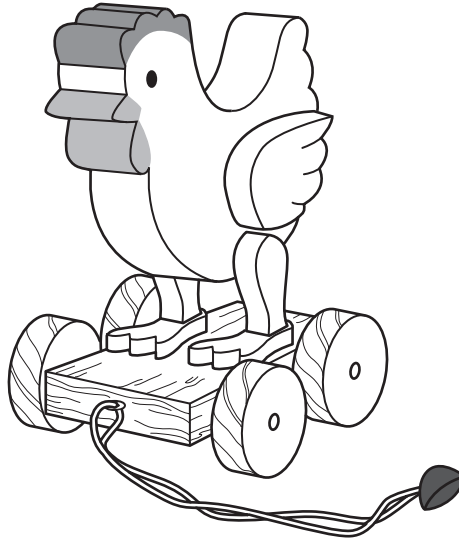

Fig. 2
17 Fig. 2 shows a pull-along toy for a young child.
- (d) To make the toy shown in Fig. 2 more appealing it needs to rock from side to side as it is pulled along.